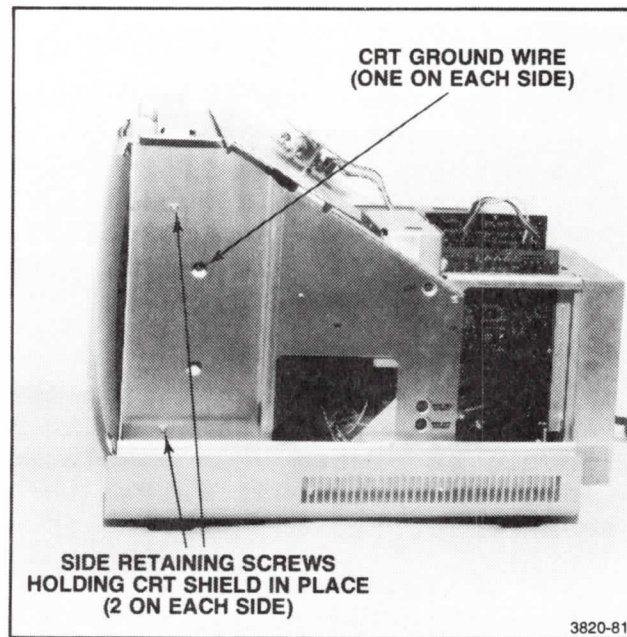

Figure 11-3. Side-View of the Display Module.
7. Turn the display module back on its base and remove the four remaining screws (two on each side) which hold the crt shield in place. Refer to Figure 11-3 for the locations of these screws.